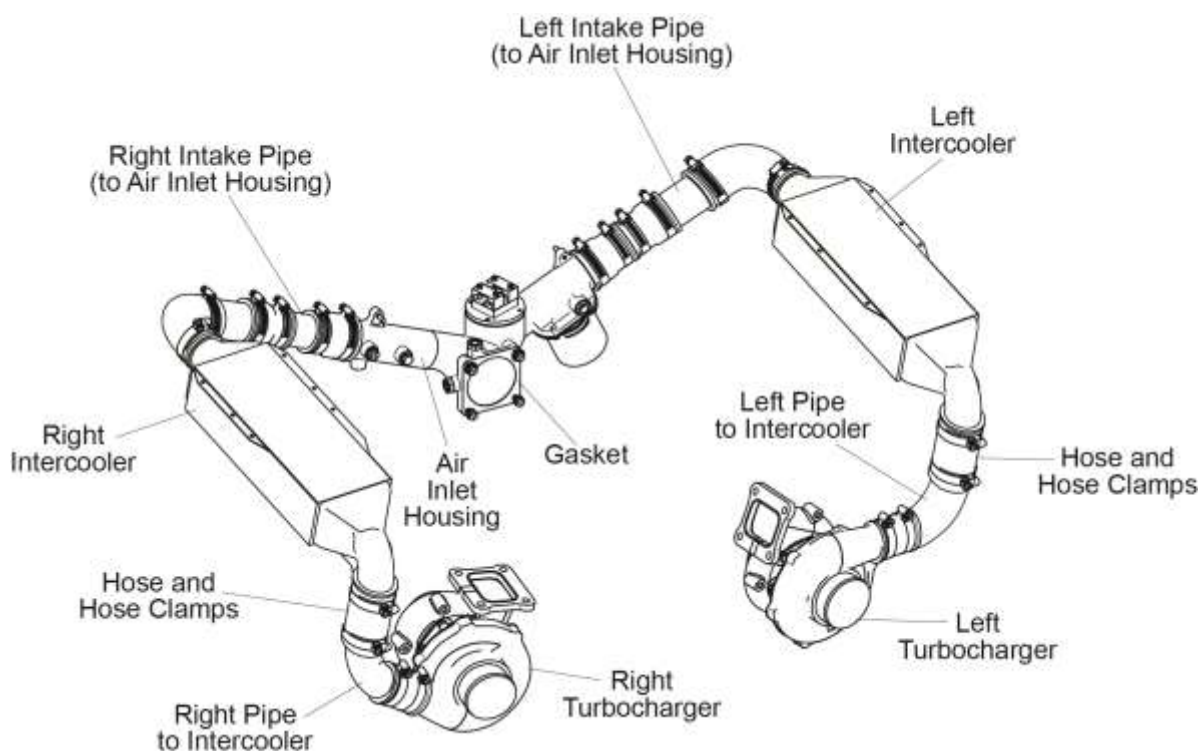

Figure 9
- (1) Loosen the bolt (Figure 9) on the two hose clamps on each of the two hoses (all part numbers are the same) attached to the top and bottom of either the left or right intercooler
- (2) Disconnect the intercooler from the hoses and remove the intercooler.
- (1) Install the correct (left or right) intercooler between the two hoses (Figure 9).
- (2) Make sure each hose is securely attached to the intercooler.
- (3) Attach the two hose clamps on each of the two hoses (all part numbers are the same) attached to the top and bottom of either the left or right intercooler. Tighten the bolt securely on the hose clamps.
- (1) Remove the clamp and spacer (Figure 9) on the clamp of the turbocharger-to-intercooler pipe to be removed. (There are different part numbers for the left and right spacers. The clamp part number is the same for both sides.) If both turbocharger-to-intercooler pipes are to be removed, identify which side the spacer was on for reference on assembly.
- (2) Loosen the bolt (Figure 9) on the two hose clamps on the hose (all part numbers are the same) installed between the intercooler and turbocharger -to-intercooler pipe.
- (3) Loosen the bolt on the two hose clamps on the hose (all part numbers are the same) installed between the turbocharger and the turbocharger -to-intercooler pipe.
- (4) Disconnect and remove the turbocharger -to-intercooler pipe from the two hose segments.
- (1) Install the correct (left or right) turbocharger-to-intercooler pipe between the two hoses (Figure 9). (One hose attaches to the intercooler and the other hose attaches the turbocharger.)
- (2) Make sure each hose is securely attached to the turbocharger-to-intercooler pipe.
- (3) Attach the two hose clamps on each of the two hoses (all part numbers are the same) on either the left or right turbocharger-to-intercooler pipe). Tighten the bolt securely on the hose clamps.
- (4) Install the cushion-type clamp on the turbocharger-to-intercooler pipe with the correct spacer.